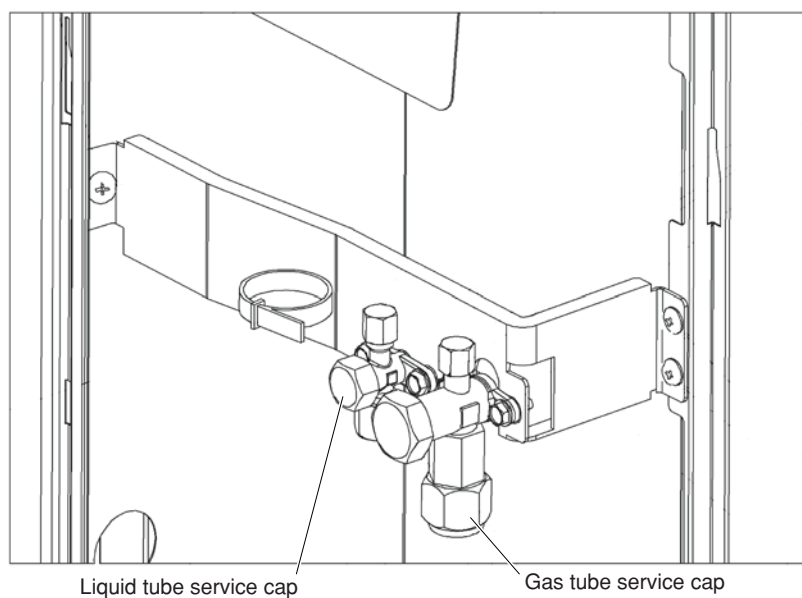

Fig. 10-2
- (5) Both the gas and liquid tube service valves are open. If not, open them now. (Fig. 10-2)
- (6) Request that the customer be present for the trial run.